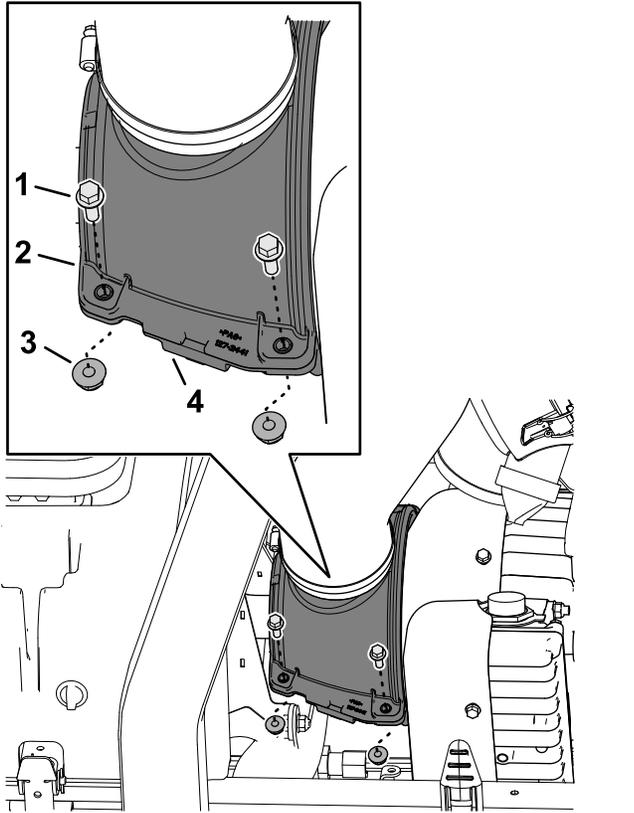

Figure 66
1. Remove the 4 flange-head capscrews and 4 flange locknuts that secure the upper and lower generator cooling-air shrouds (Figure 66).